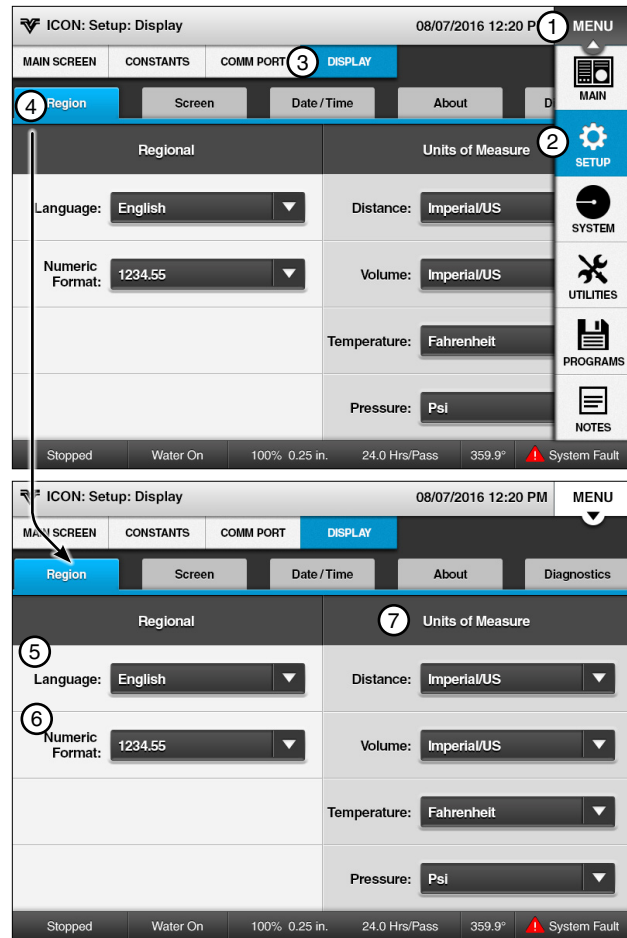

Figure 30-1
1. On the Region screen set the Language, Numeric Format and Units of Measure for Distance, Volume, Temperature and Pressure. See Figure 30-1.